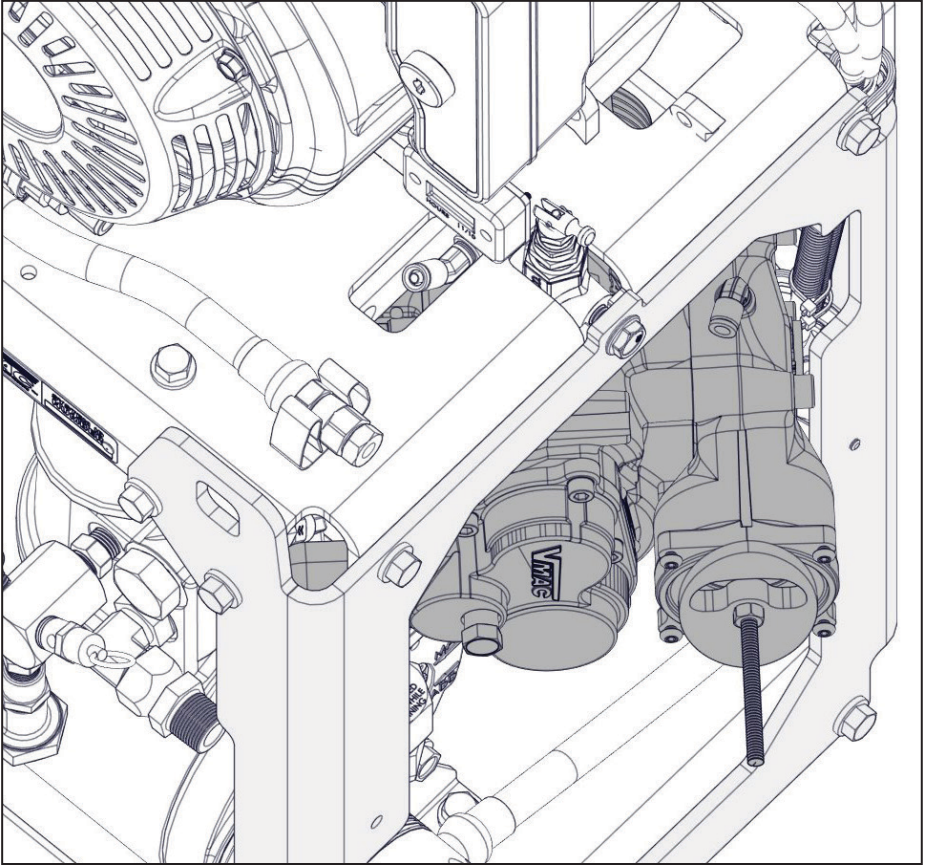

Figure 69 — Remove compressor
- ☐ Pull the compressor out from the side of the unit to remove it (Figure 69).